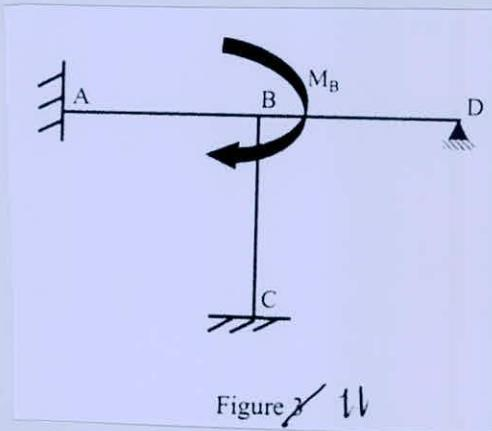

Figure 11
- (b) The frame shown in Figure 11 is subjected to a clockwise moment M_b , around point B. This causes moments and/or rotations at A, B, C and D points. (i) Sketch the qualitative deflected shape due to this moment; (ii) Show the rotations and moments at A, B, C, D points marking the knowns and unknowns; (iii) Find out M_{BA} , M_{BC} , M_{BD} and quantify the rotation at B. (6)